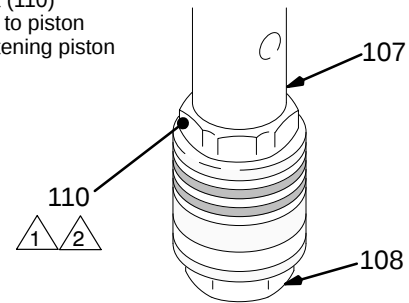

Fig. 21
3. Tighten the nut (110) onto the piston valve (108) to 2 in-lb (0.23 N.m). See Fig. 21.
6. Hand tighten the valve into the piston rod just until the nut (110) contacts the rod. See Fig. 21.
7. Place the flats of the rod (107) in a smooth jaw vise.
8. Carefully tighten the nut (110) against the piston rod to 30 ft-lb (40 N.m). See Fig. 21.
Use two wrenches to maintain the alignment mentioned in Fig. 21.